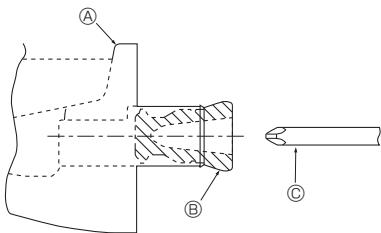

Fig. 5-1
5.1. Drainage piping work (Fig. 5-1)
- For left side tubing, be sure to insert the rubber plug into the right drain port. (Fig. 5-1)
- (A) Drain pan